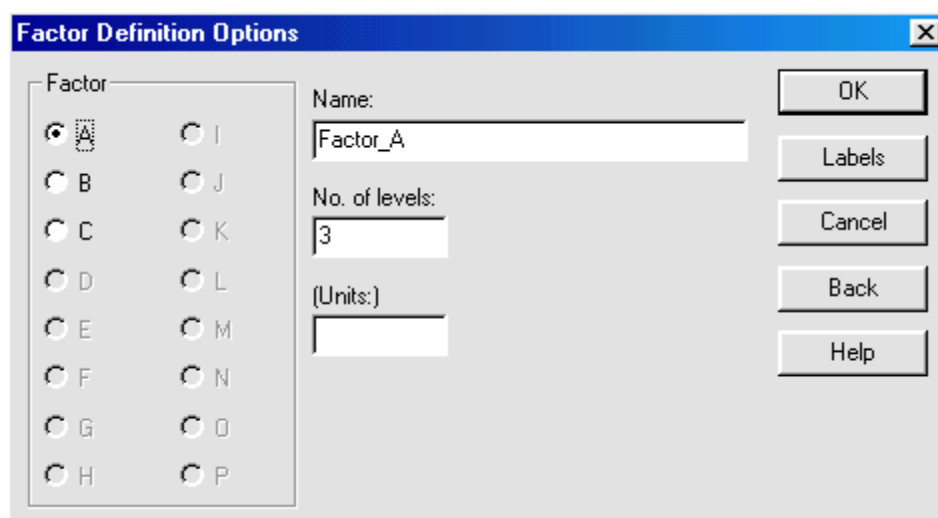

Figure 9-2. Factor Definition Options Dialog Box
3. Click OK to display the Factor Definition Options dialog box shown in Figure 9-2.